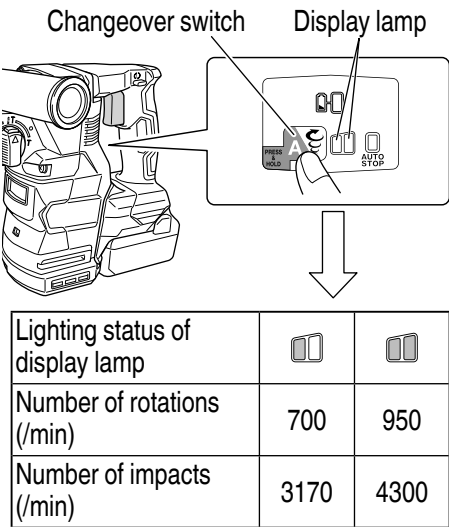

Fig. 38
- Rotation speed (Low mode/Normal mode) (Fig. 38)